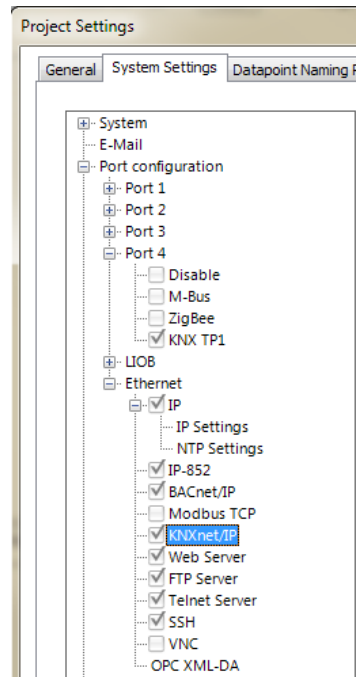

Figure 243: Enabling KNX/TP1 and KNXnet/IP in the Project Settings Dialog.
5. In the **System Settings** tab enable the KNX for Port 4 and/or for the Ethernet port, as shown in Figure 243.